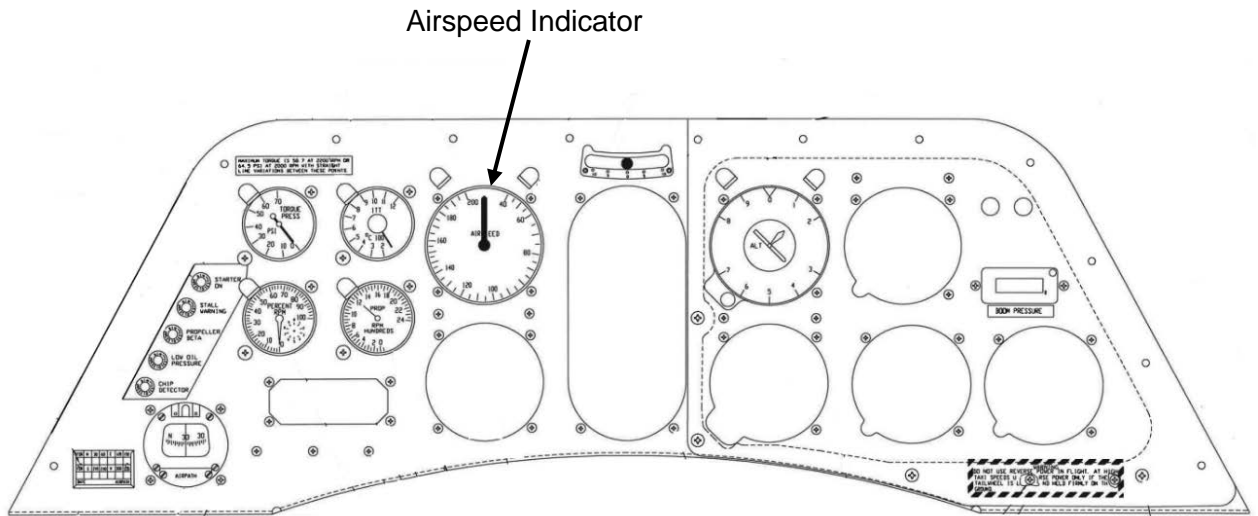

Figure 45-4
1. Original Airspeed Indicator Removal. See Figure 45-4 and 45-5.